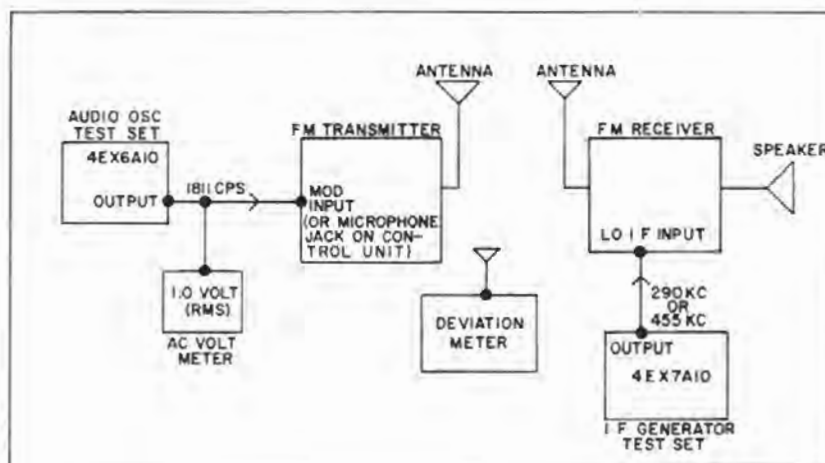

Figure 1 - Equipment Connections Using FM Transmitter
1. Make equipment connections as illustrated in Figure 1.